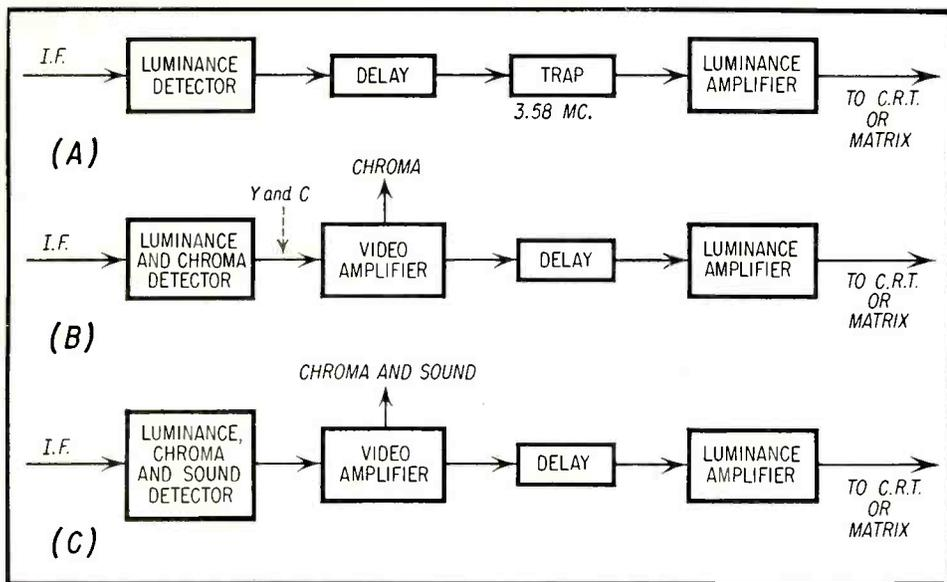

Fig. 1—Three types of luminance systems found in color TV receivers are shown in block diagram form with chroma and sound take off points.
THREE general types of luminance section systems are found in color TV receivers, as is shown in Fig. 1. In the first (Fig. 1A), one detector is used for the luminance signal, and another detector (not shown) is used for the chroma and sound signals. In the second (Fig. 1B), one detector is used for the sound signal (not shown) and the other is used for the chroma and luminance signals. In the third (Fig. 1C), one detector is used for the sound, chroma, and luminance signals.
Of the three systems shown in Fig. 1, it will be observed that only the one shown in (A) does not require an additional video amplifier. The reason for this will be explained subsequently.